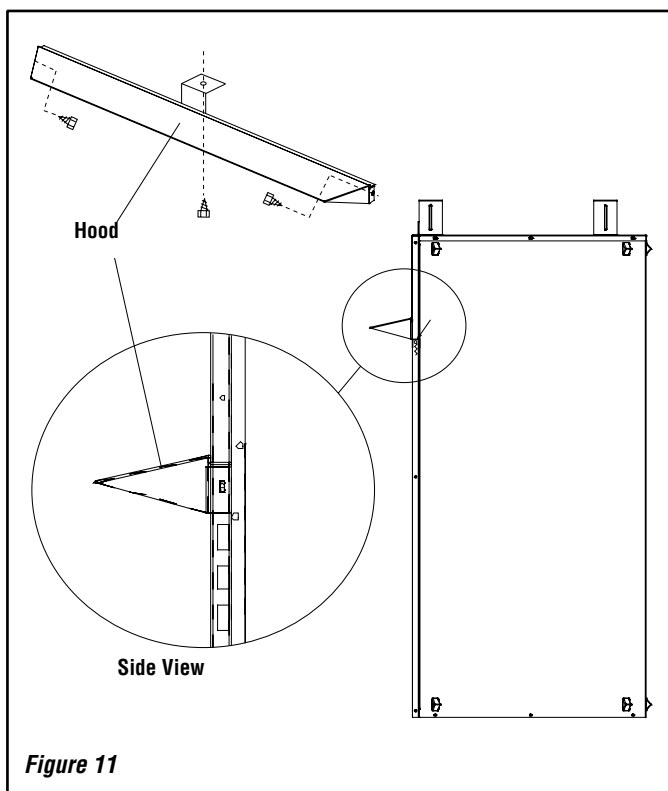

Figure 11
NOTE: A hood comes standard and is required for model **ORIONLR32**. The factory-supplied hood must be installed on the firebox for safe operation for model **ORIONLR32** series in all installations (this part is optional for **ORIONLR36** and **ORIONLR42** models). See **Figure 11**.
Step 2. Align the hood with the holes in the side frames as shown in **Figure 11**. Install three screws as shown in **Figure 11**. Make sure hood is level and secure.